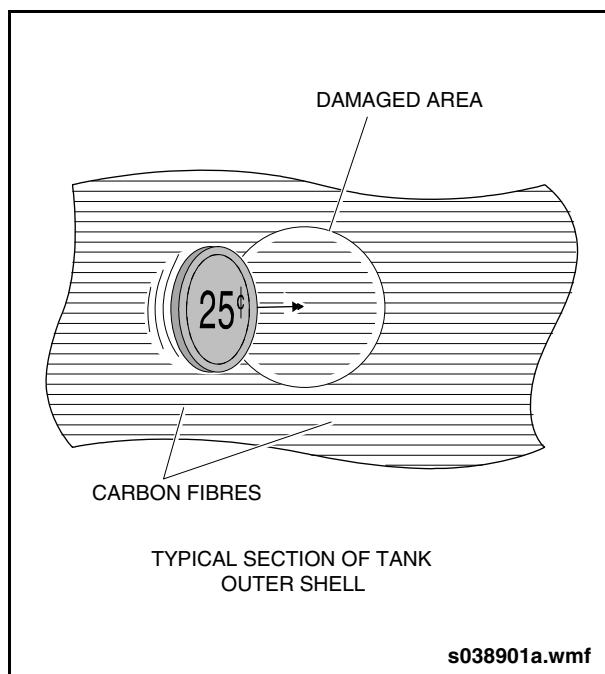

Fig. 7-17: Coin Tap Test
5. Differences in sound emitted by performance of a "coin" tap test in the potentially damaged area relative to the surrounding area. The coin tap test is a tool used to identify delamination within the composite wall and should be performed only when the composite surface has been impacted. The coin tap test will not reveal delamination from abrasion damage, because abrasion damage will not delaminate underlaying layers. The coin tap test is performed, by tapping the surface of the composite with a quarter or larger coin, grasped between the fingers. The tapping sound emitted by the surface should be compared in zones of potential damage relative to surrounding areas where damage is not suspected. The coin tap test must be confined to the cylinder portion of the tank. False indications may be heard if this is attempted in the dome (end) areas. See "Fig. 7-17: Coin Tap Test" on page 64.